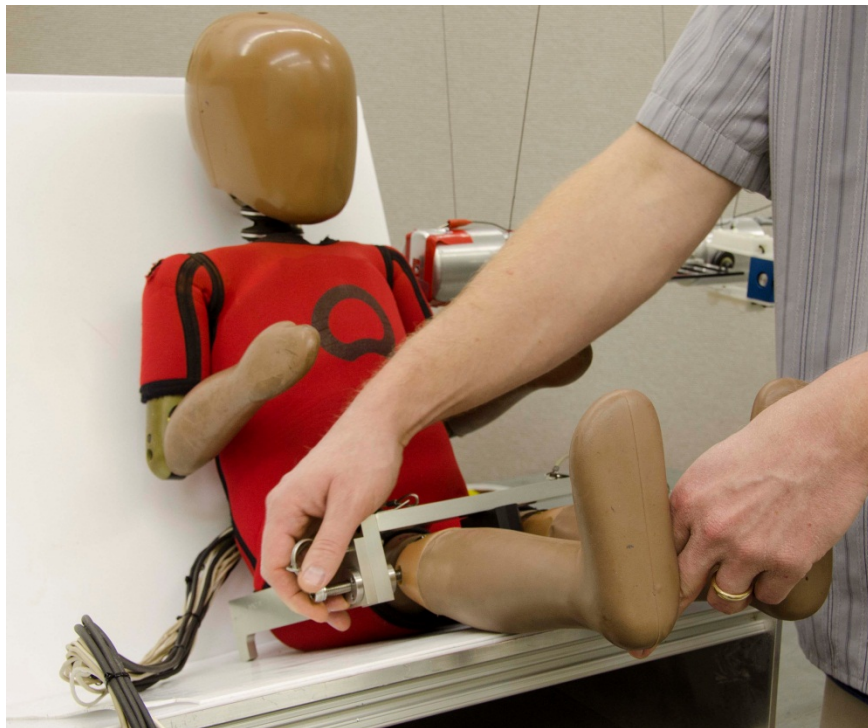
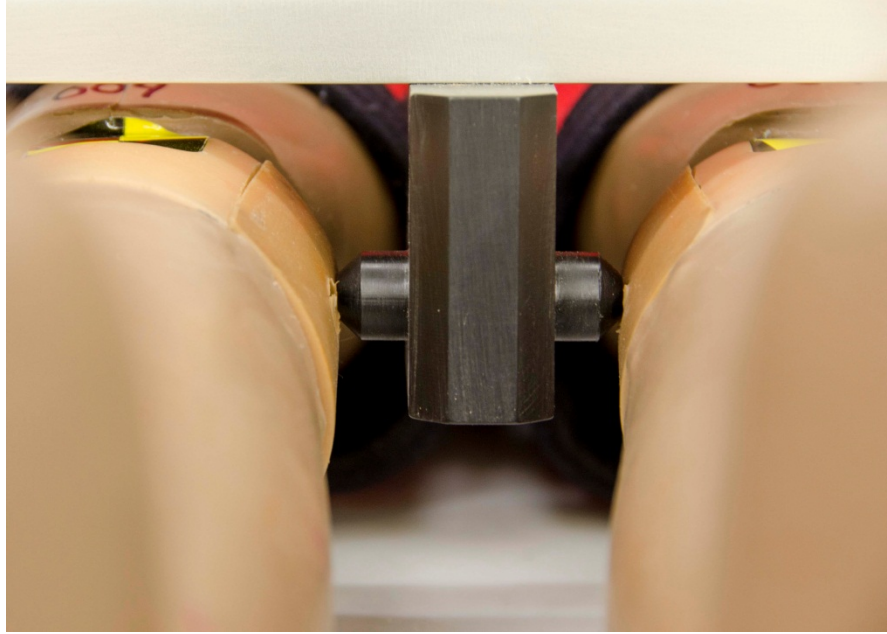

Figure 67. Pull feet apart while tightening bolt on positioning tool
Figure 68. Knees just touching the inner spacing bar on the positioning device
- Pull the feet apart while hand-tightening either left or right bolt (Figure 67) until the inner side of the knee *just touches* the center spacer of the positioning tool (Figure 68).